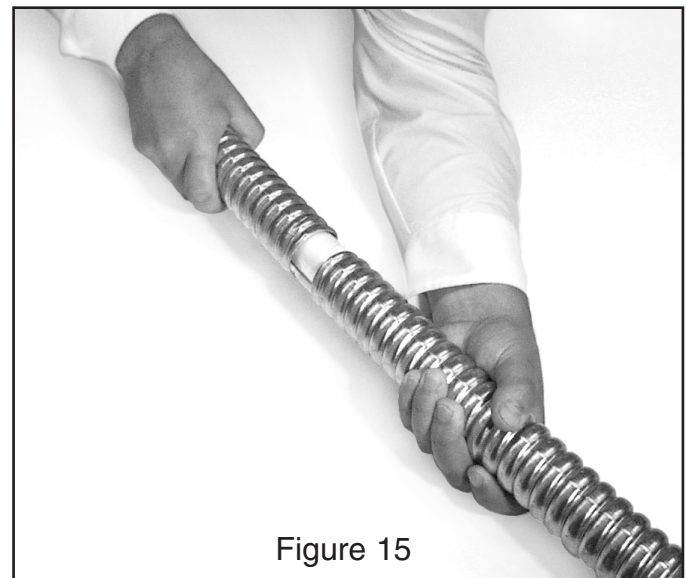

Figure 15
2. If required, mildly flex the cable until the sheath parts at the cut. (Figure 15)